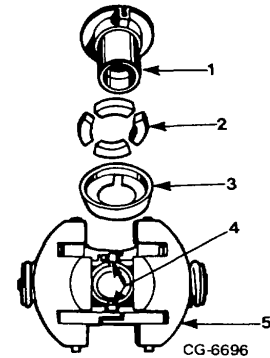

Figure 5. Exploded View of Damper Hub
- Inspect damper buffers for damage. If any loose rotational movement exists in governor weight assembly relative to the camshaft, replace buffers. Replace buffers as a set if needed (Figure 5).